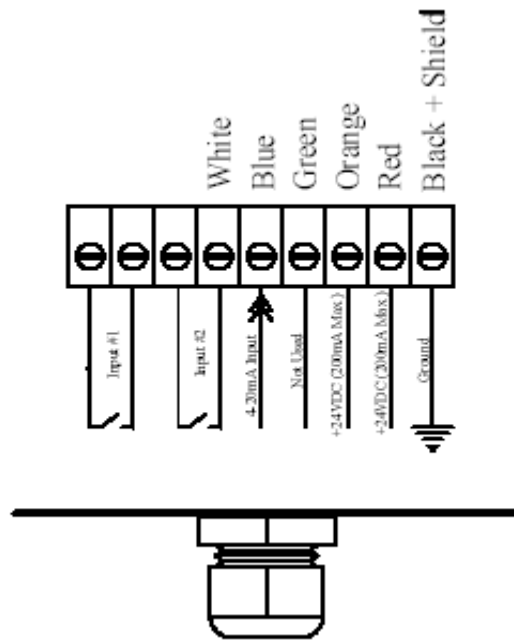

Figure 7.8
7.8.1 Install the PE bulkhead fitting per section 6.1 for sensors with male pipe threads. Install the sensor into the fitting with Teflon® pipe sealant. Remove the display unit box cover. Attach the display unit to the PE mounting plates provided on the tank with 4 ea. #10 S.S. Self-tapping screws. Attach the sensor cable to the control box with small strain relief and connect wires per label in the box. Please see Figure 7.8 below for sensor wire attachment information. Attach the unit to 110 VAC and test unit. The display unit is preprogrammed for the tank ordered. The display will show hundreds of gallons (display x 100 = gallons). Refer to literature shipped with unit to answer any additional questions.